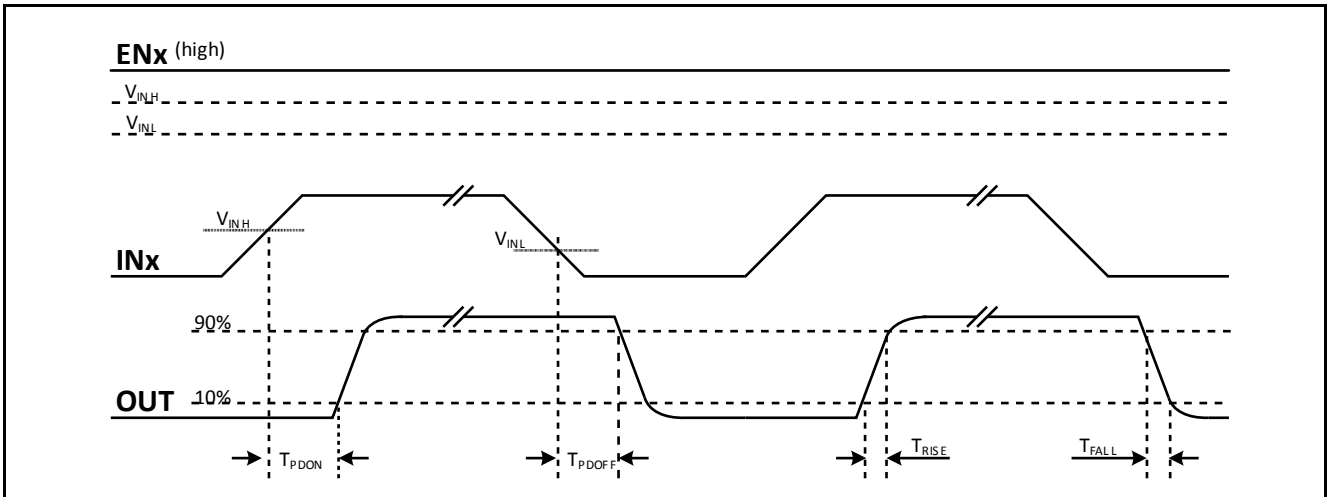
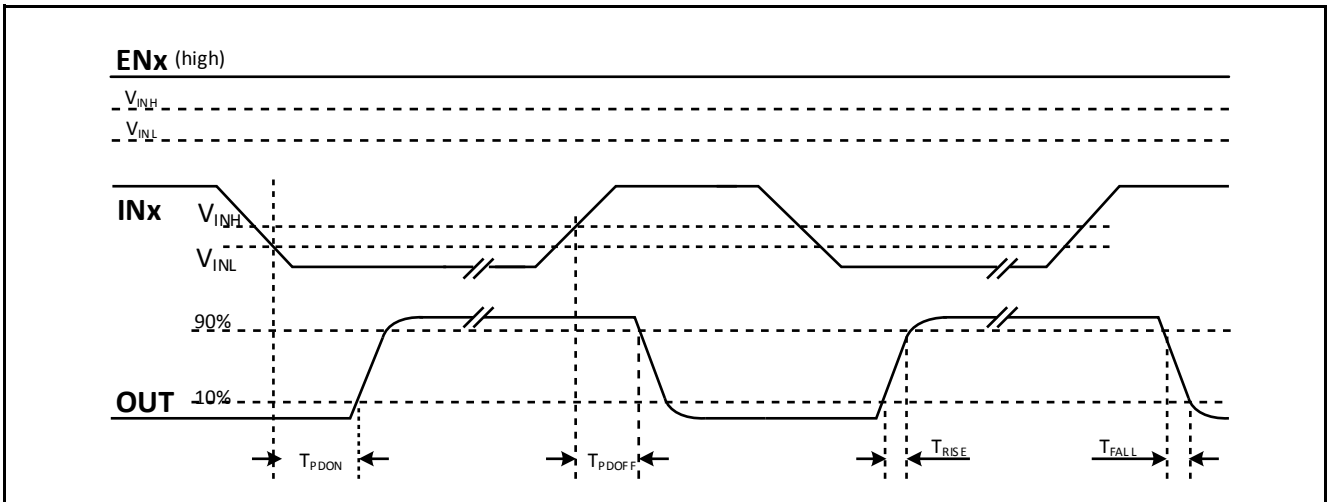
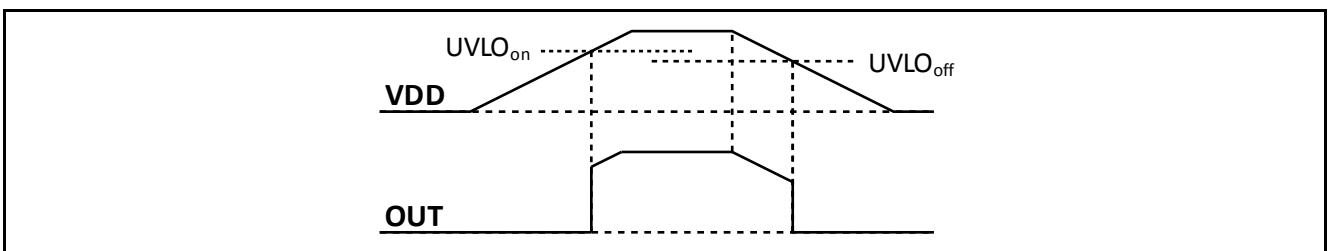
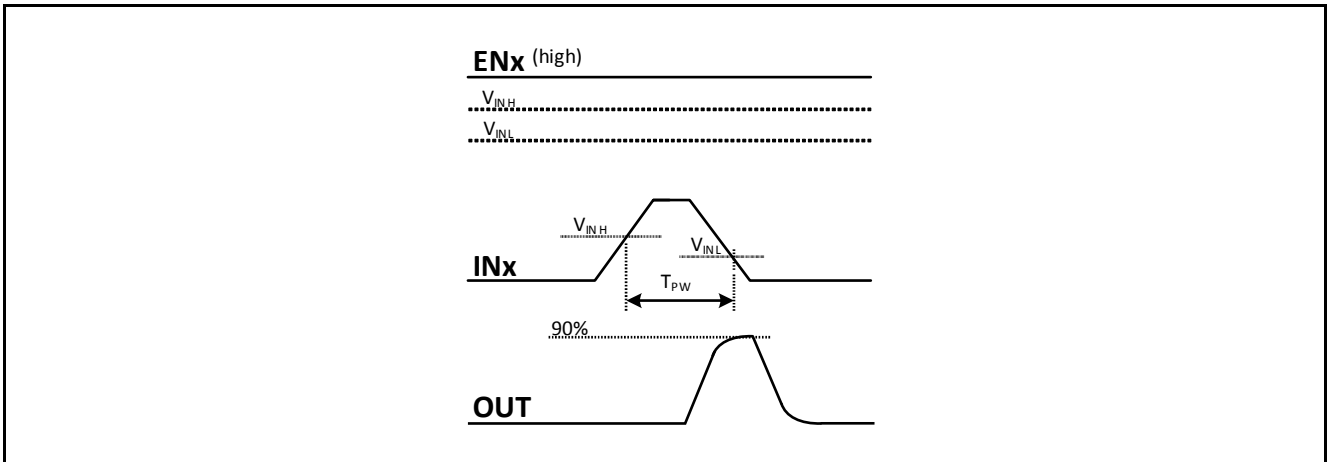

Figure 6-1 Propagation delay, rise and fall time, non-inverted
Figure 6-2 Propagation delay, rise and fall Time, inverted
Figure 6-3 UVLO behaviour, input ENx and INx drives OUT normally high
Figure 6-4 TPW, minimum input pulse width that changes output state
**Table 5-8 Static Output Characteristics (see Figure 6-2)**
Table 5-9 Dynamic Characteristics (see Figure 6-1, Figure 6-2, Figure 6-3 and Figure 6-4)
Figure 6-1 shows the definition of rise, fall and delay times for the inputs of the non-inverting version (with Enable pin high or open).
Figure 6-2 shows the definition of rise, fall and delay times for the inputs of the inverting version (with enable pins high or open).
Figure 6-3 illustrates the undervoltage lockout function.
Figure 6-4 illustrates the minimum input pulse width that changes output state.